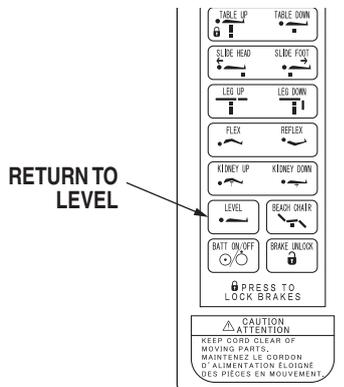

Figure 2-15. Return to Level
j. **Return To Level** To return the table top to a level position, press the LEVEL button (figure 2-15).